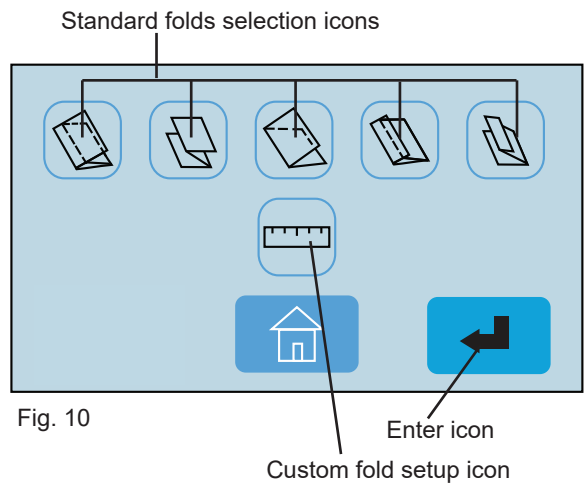

Fig. 8
5. Raise the infeed tray lever to lower the infeed tray. (Fig. 8)